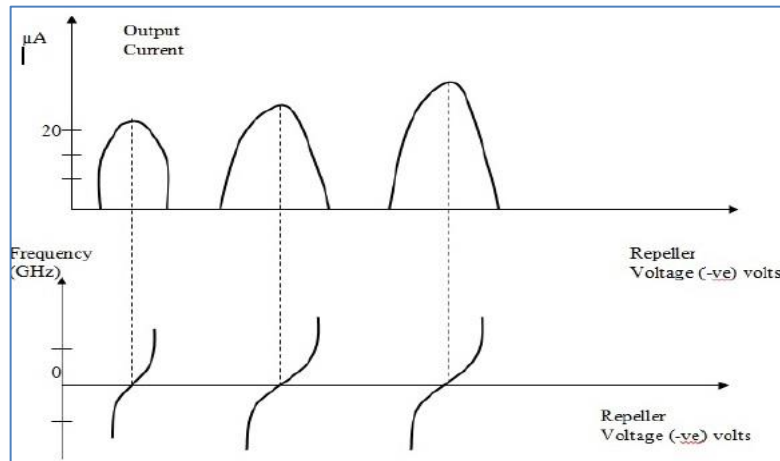

Figure 2.1 V-I Characteristics
- Plot a graph showing the relationship between repeller voltage and frequency as shown in the figure 2.1